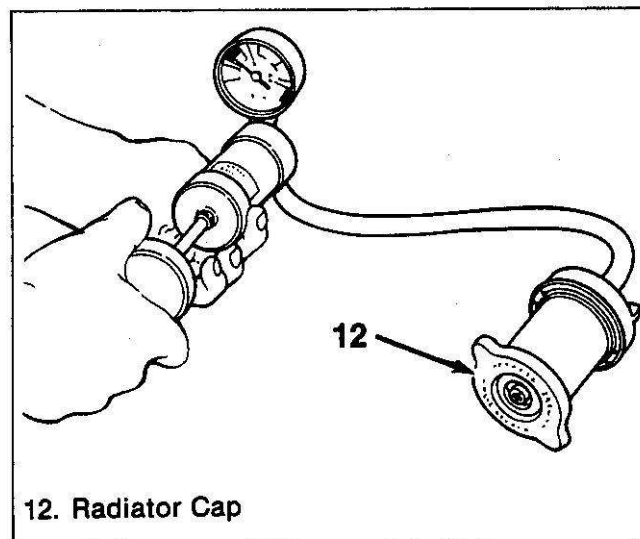

**Figure 3. Pressure Cap**
The pressure relief valve assembly, integral with the filler cap, incorporates a pressure valve (14) and a vacuum valve (15) (figure 3). When pressure in the system reaches valve setting, the pressure valve opens and vapor is allowed to escape.